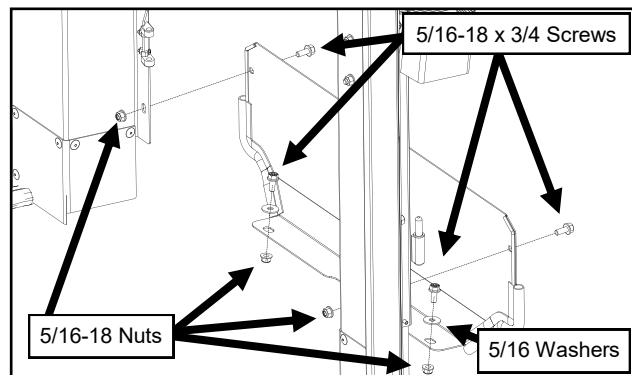

Fig. 11.1 (Lower Rear Panel Fasteners)
- 11.1** Fasten the lower rear panel to the rear legs as shown in Figure 11.1.
- 11.2** Secure the lower rear panel to the vehicle using the fasteners shown in Figure 11.1